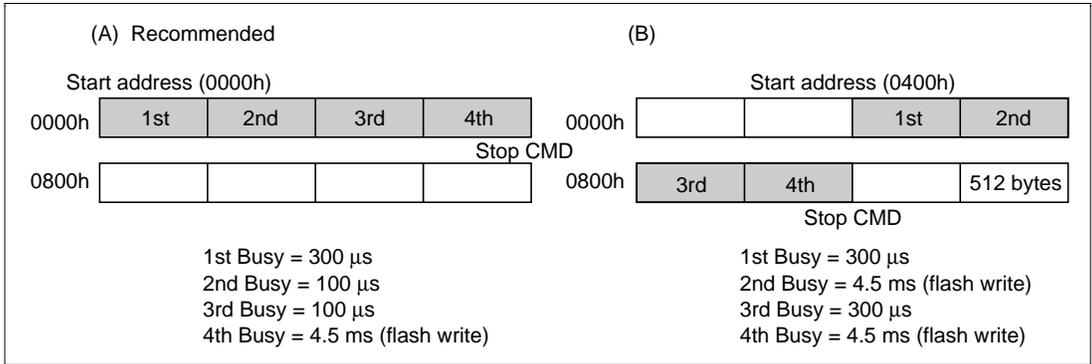

Figure 2.10 Example of Recommended Multiple Block Start Address Setting
In Hitachi MMCs, there are flash write physical boundaries at 2048-byte intervals (addresses 0000h, 0800h, 1000h, 1800h ...), and writes are performed in these units. Therefore, when writing 2048 bytes of data comprising four 512-byte units using a multiple block write (CMD25) as shown in figure 2.10, processing for writing to flash from the internal buffer is performed once when writing from an address (0000h) whereby the data is within a 2048-byte physical boundary, as in (A), and twice when the write runs over a physical boundary, as in (B). To achieve higher speed, therefore, data writes should be executed from addresses that take account of 2048-byte physical boundaries (0000h, 0800h, 1000h, 1800h ...).